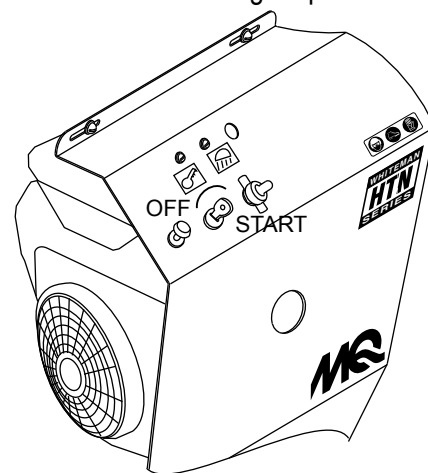

Figure 11. Ignition Key
6. Turn the ignition key (Figure 11) clockwise and listen for the engine to start. Once the engine starts, release ignition key.